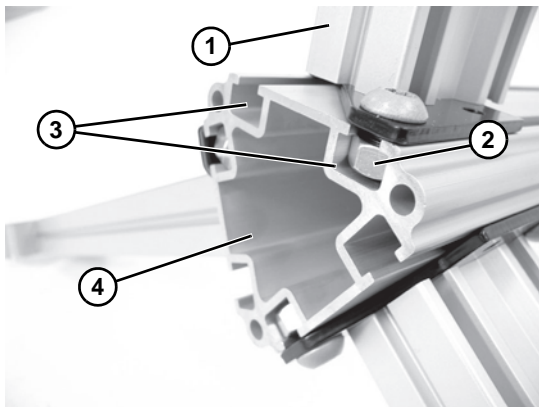

Figure 5
4. Align the leg tube (**Figure 5, item 1**) end plate hex nuts (**Figure 5, item 2**) with the t-slots (**Figure 5, item 3**) on one side of the trileg post (**Figure 5, item 4**). Slide the hex nuts (**Figure 5, item 2**) into the T-slots (**Figure 5, item 3**).